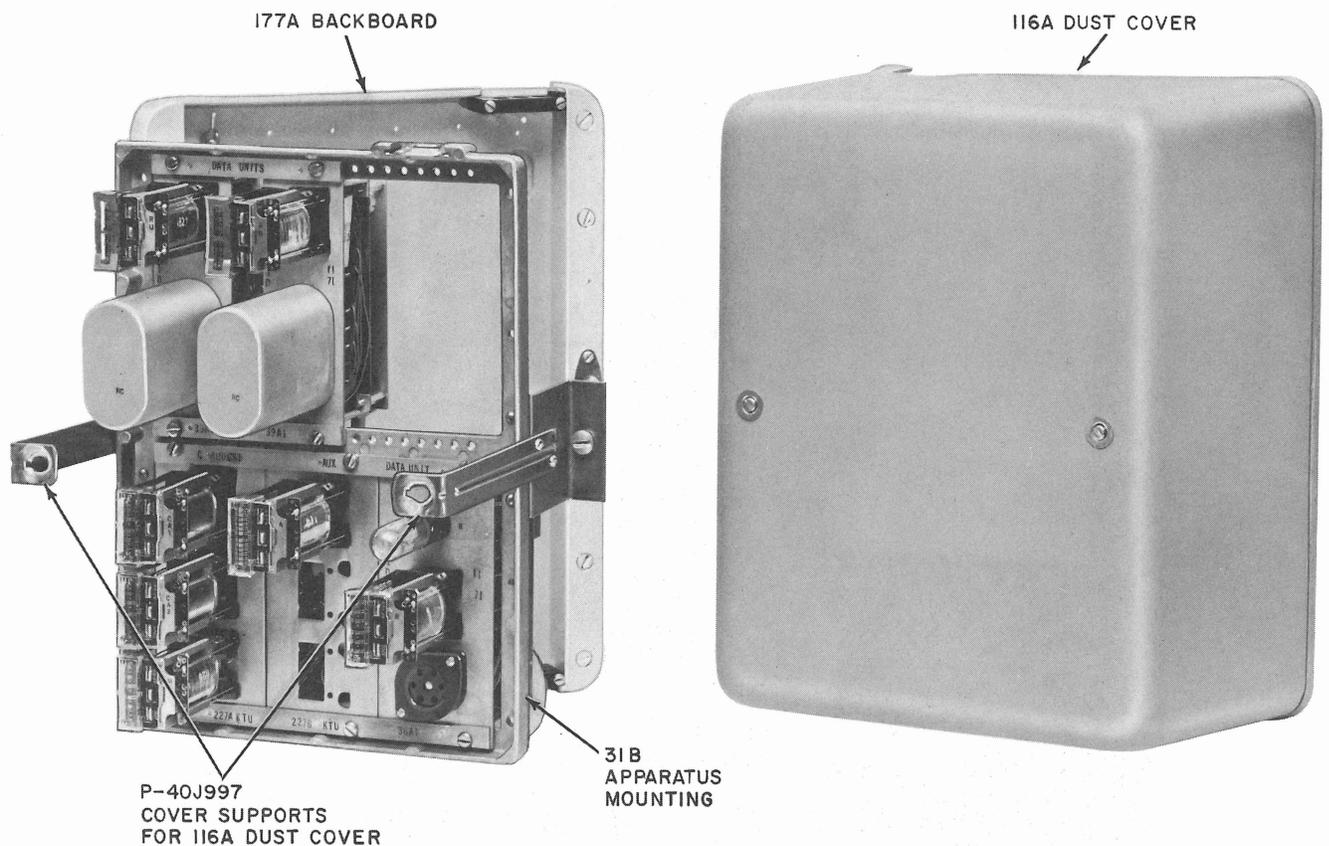

Fig. 3—Front View of DAS 828C-L1A and Cover Assembly
2.08 DAS 828C-L1A, shown in Fig. 3, consists of a basic 828C-L1 prewired, tested, and assembled on a 31B apparatus mounting, and is ready to be wall-mounted. The complete enclosure,